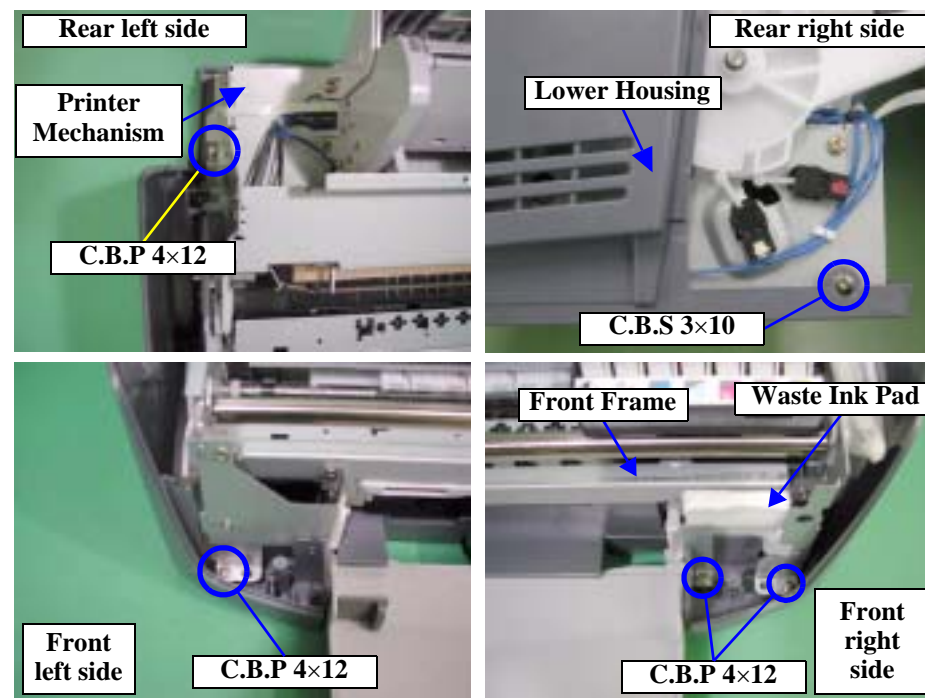

Figure 4-11. Screws That Secure the Printer Mechanism
Fit the screws 4) C.B.P 4×12 (9±1kgf.cm) in the order shown in Figure 4-11. (T.B.D.)
Fully be careful when removing the Printer Mechanism after peeling the Waste Ink Pad from the Front Frame since the Extension Spring 1.554 (front right) may come off. Refer to Figure 4-11, "Screws That Secure the Printer Mechanism" and Figure 4-48, "Removing the Extension Springs 1.554".
- When reinstalling the Printer Mechanism, put the front right side Waste Ink Pad into the front of the Front Frame as seen from the printer front, and fix the Waste Ink Pad and Front Frame with double-faced tape. Refer to Figure 4-11, "Screws That Secure the Printer Mechanism".